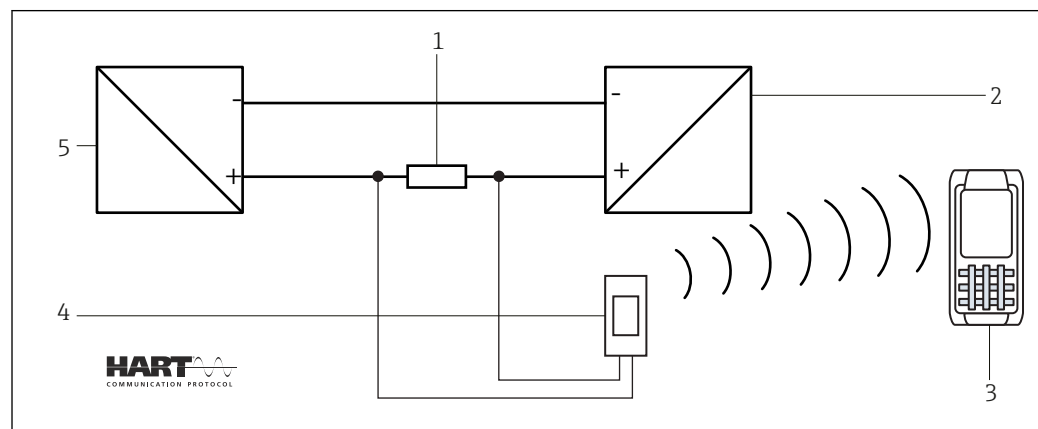

Fig. 2 Connection via a load resistor
- With a standard transmitter power supply unit (e.g. RMA42) via a load resistor with $270\ \Omega$ (250 to 1 100 Ω), which is connected to the circuit as shown in **Fig. 2**.